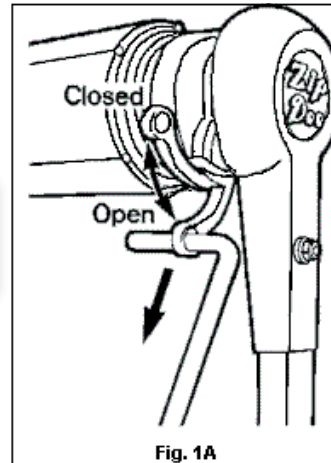
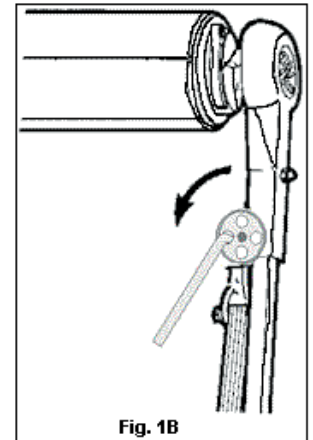

Fig. 1A
Fig. 1B
1. Insert the pull rod behind the Z-Lock lever and pull downward (Fig. 1A). This releases the awning. Then turn the clamp wheel counterclockwise and swing the assembly toward the center to free the hardware (Fig. 1B).
5. Lock the awning in place by reversing Steps 1 and 2 of the opening procedure (Figs. 1A and 1B).
**NOTE:** If you don't have clamp wheels (Fig. 1B), see Universal Operation later in this manual.